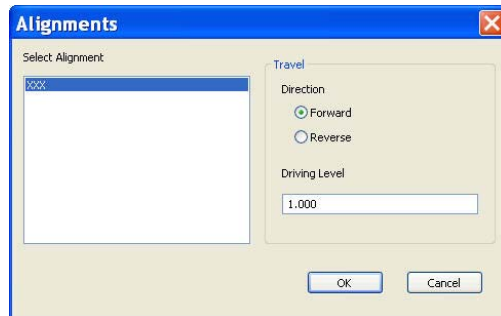

Figure 14-49. The Alignments Dialog Box
- Alignment – select an Alignment file, then select either **Forward** or **Reverse** for *Direction of Travel* and enter a distance in the *Driving Level* field (Figure 14-49).